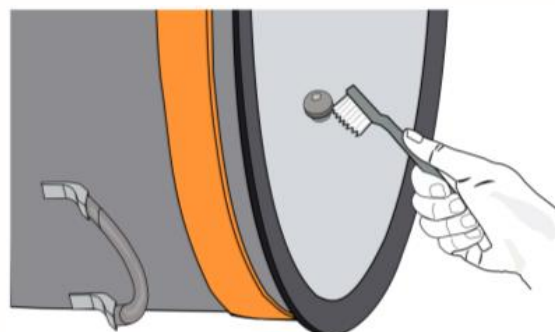

Fig. 5 HOW TO CLEAN TANK
- Using a soft bristle brush (not provided) and adequate detergent, clean well between pins and wall of the tank to eliminate any surplus or debris food. (See Fig. 5)